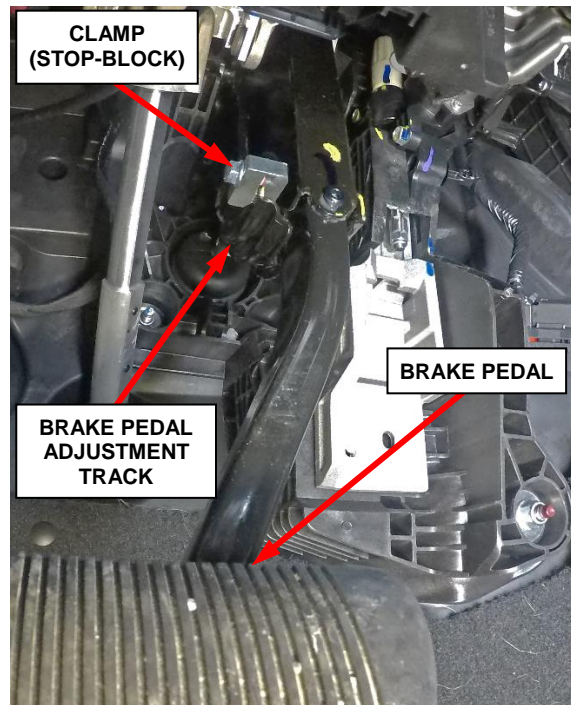

Figure 6 – Clamp (Stop-Block)
- 8. Position and install the clamp (stop-block) to the brake pedal adjustment track, left side of the brake pedal arm (Figures 6 and 7).